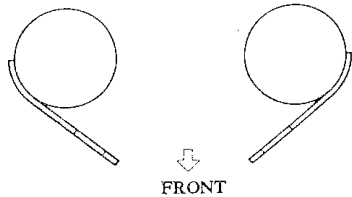

Fig. 16-7
- Left-hand and right-hand front suspension struts differ in location of brake hose bracket attached to the strut. In correct installation, brake hose bracket is toward the center of the body as shown in the Fig. 16-7.